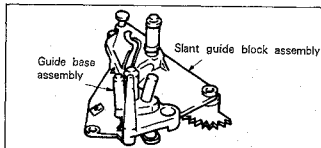

Fig. 7-28.
- > Set the slant guide block assembly guide base assembly in unthreaded state (guide base assembly is on front panel side) and mount. (See Fig. 7-28.)